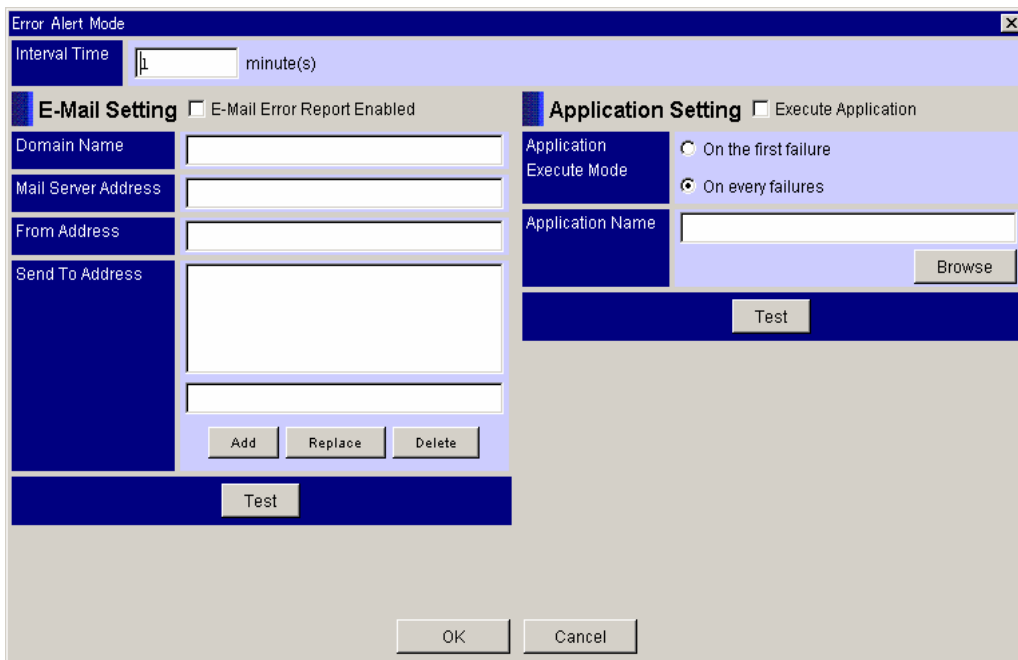

Figure 15.1 Setting Error Monitoring Options
1. On the **Tool** menu, select **Error Monitoring → Options**. Alternatively, click : **Error Monitoring Options** in the tool bar (see Figure 15.1).